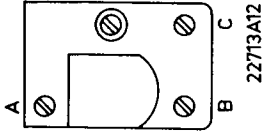

Fig. 5
10. Playback head (Fig. 5)
13. Recording head (Fig. 5)